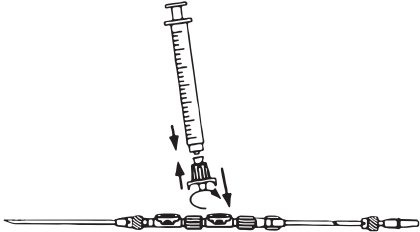

Figure 4
B. SEPTUM ACCESS USING A LUER-LOCK DEVICE (SEE FIGURE 4)